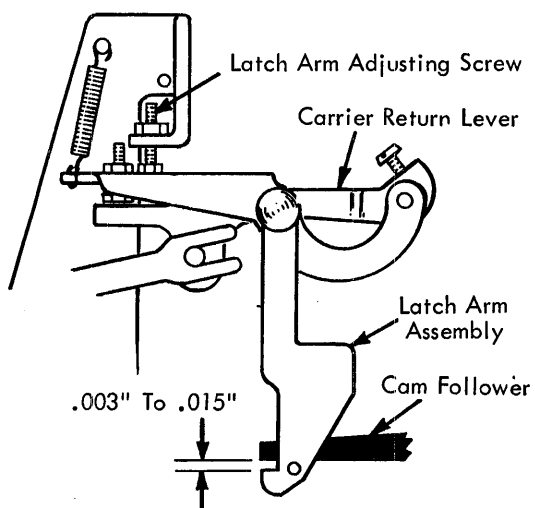

FIGURE 203.2 Carrier Return Latch Height (15 Inch Late Style)
- a. Carrier Return Lever - Position the carrier return lever laterally on the operational pivot pin so that the carrier return latch will hang vertical without binding against its interposer (Fig. 203.2). Be sure to tighten the screw in the lever onto the flat portion of the pin.
- b. Carrier Return Latch Arm Assembly Adjusting Screw - With the carrier return cam latched in the rest position, adjust the screw so that the carrier return latch will pass under the cam follower by .003" to .015" (Fig. 203.2).